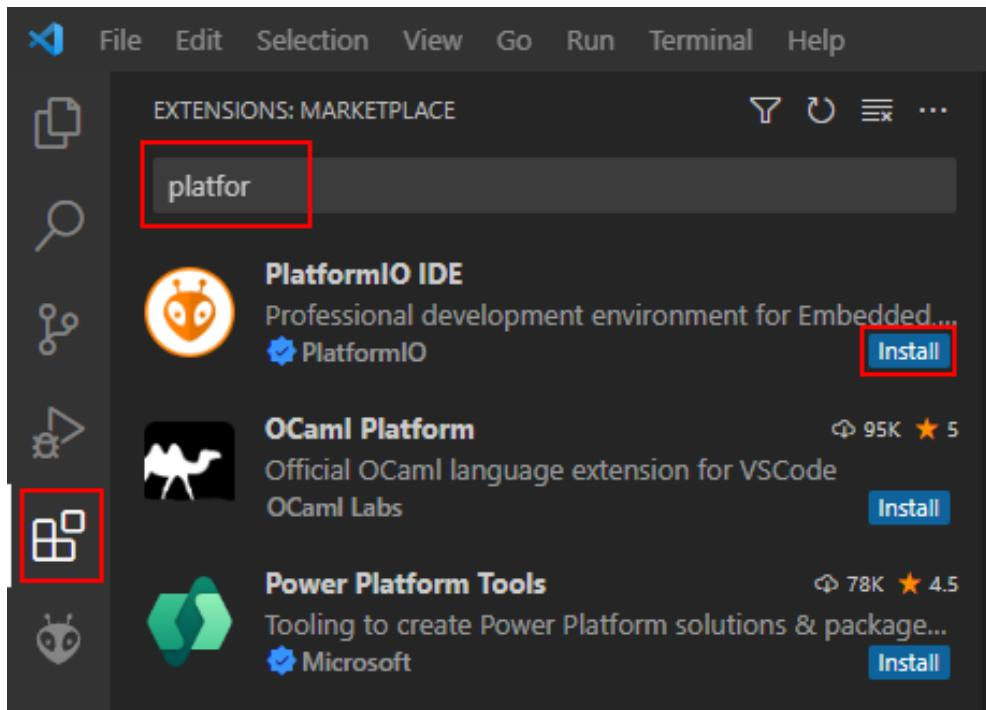

Figure 4: VSCode GUI highlighting "Extension" and "PlatformIO IDE"
- Open the "Extensions" sidebar in VSCode, as shown in Figure 4.
- Search for "PlatformIO" and click "install", as shown in Figure 4.